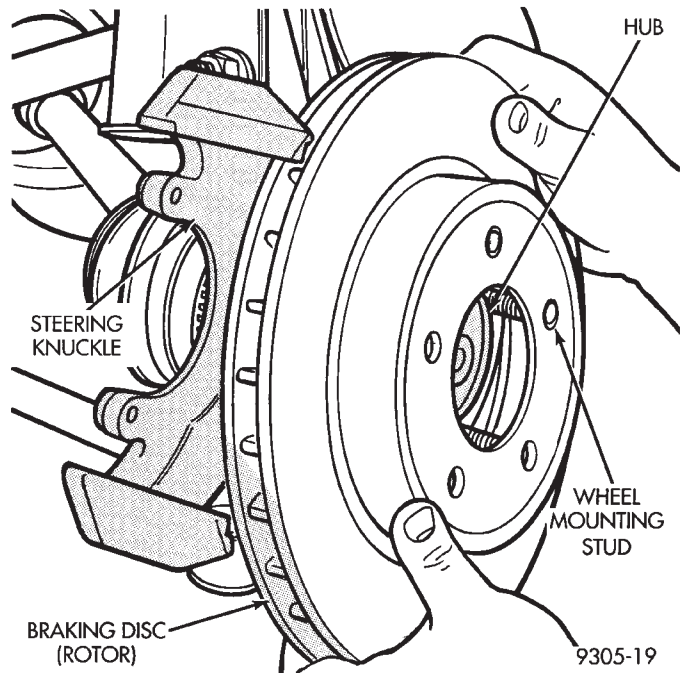

Fig. 17 Installing Braking Disc
(8) Install the braking disk back on the hub and bearing assembly (Fig. 17).